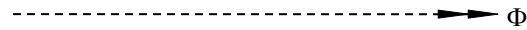

Figure 9
Step 4: Locate voltages and currents on the phasor diagram, see figure 9.